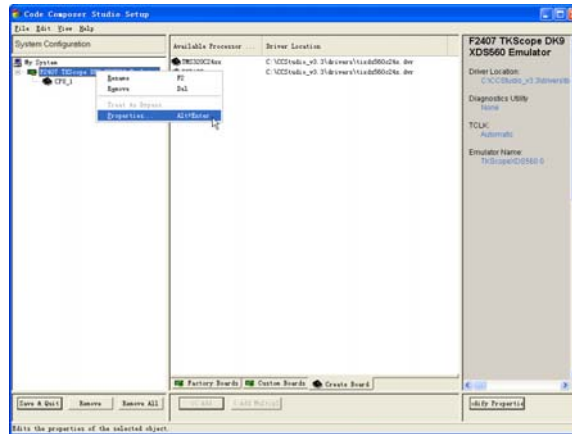

Figure 3.6 Set emulator properties
6. Users can open the properties dialog box emulator, set according to actual needs, as show in Figure 3.6.